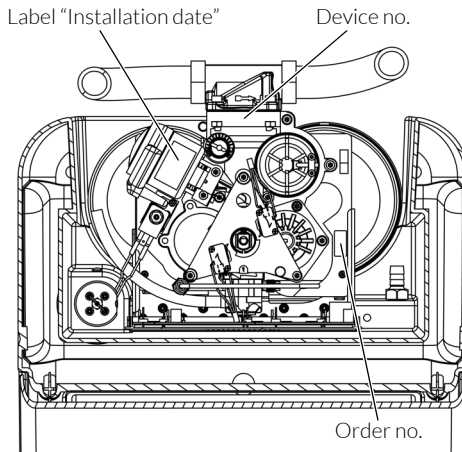

Fig. 8: Device no., order no. and label "Installation date"
- / Note down the installation date on the label (see fig. 8) and in the service record sheet (chapter 12).